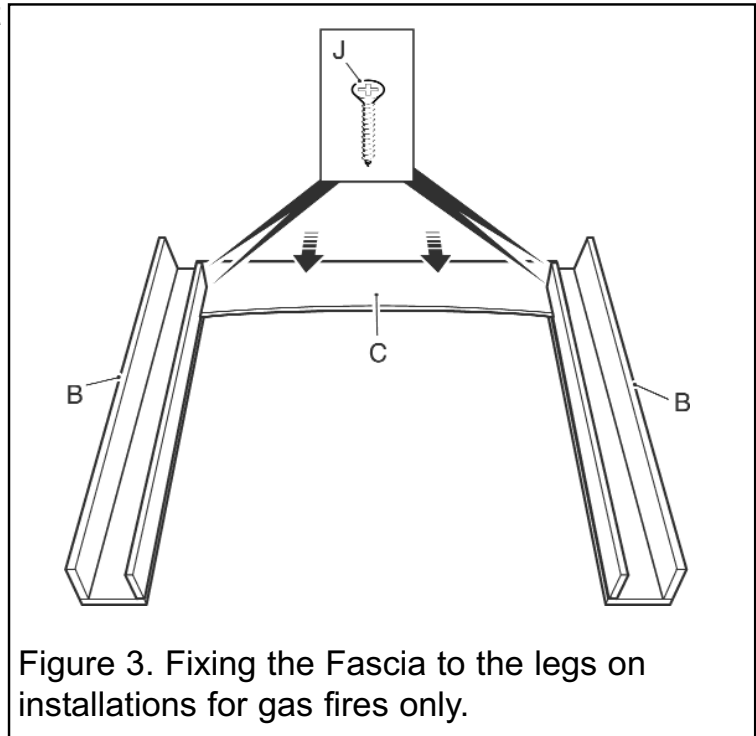

Figure 3. Fixing the Fascia to the legs on installations for gas fires only.
- Take the Fascia (C) and locate it to Legs (B) using screws (J) (See figure 3).